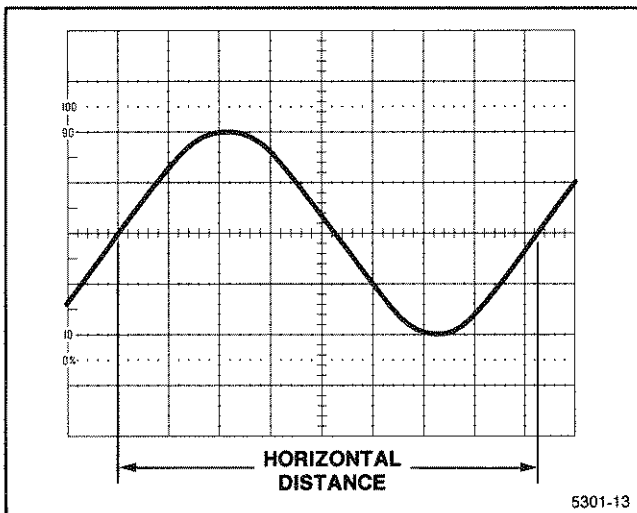

Figure 6-5. Time duration.
5. Position the display to place the time-measurement points on the center horizontal graticule line (see Figure 6-5).
**EXAMPLE:** The distance between the time-measurement points is 8.3 divisions (see Figure 6-5), and the SEC/DIV switch is set to 2 ms. The X10 Magnifier switch is pushed in (X1 magnification).
**EXAMPLE:** The signal in Figure 6-5 has a time duration of 16.6 ms.